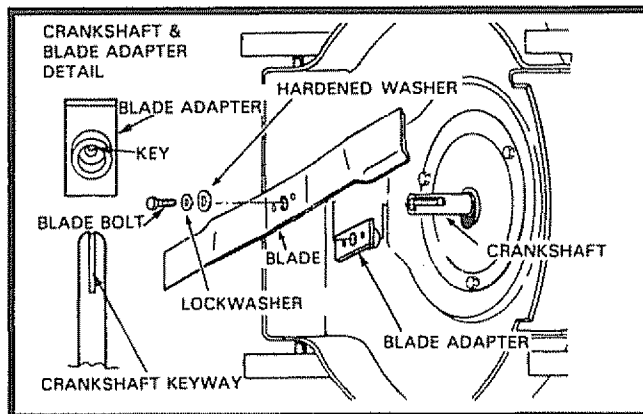

FIG. 6
- Remove Blade and attaching hardware (Bolt, Lockwasher and Hardened Washer) (See Fig. 6).
- Position Blade on to the Blade Adapter aligning the two (2) holes in the Blade with the raised lugs on the Adapter.
**NOTE:** Be sure the word TOP (stamped on the Blade) is toward the engine (See Fig. 6).
- Install the Blade Bolt with the Lockwasher and Hardened Washer into Blade Adapter and Crankshaft (See Fig. 6).